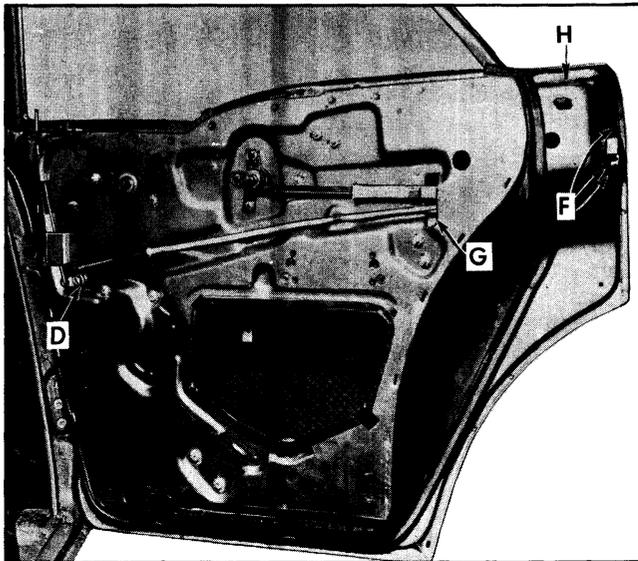
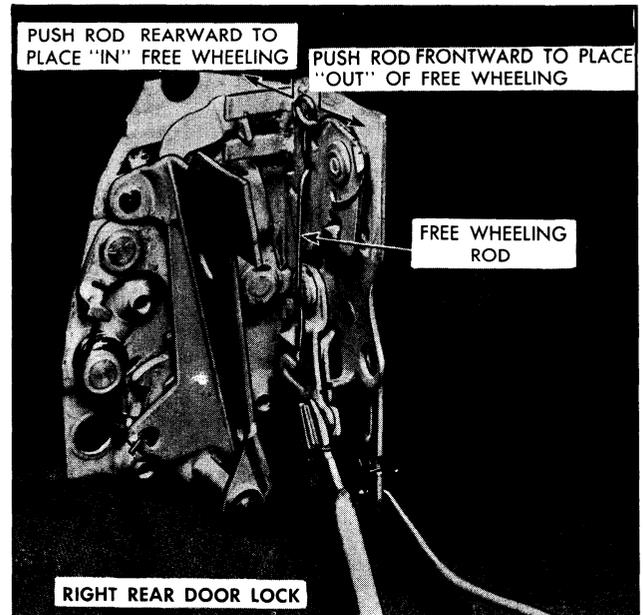

Fig. 17-10 Rear Door Lock Removal (HS)
Fig. 17-12 Free Wheeling Adjustment (HS)
2. Remove inside locking rod lever screw "D" and detach lock-to-lever connecting rod at "D". (See Fig. 17-10)
2. Remove plug from access hole indicated at "H" in Fig. 17-10; then insert suitable tool and push rod rearward to place lock "in" free wheeling, or push rod forward to place "out" of free wheeling. (See Fig. 17-12)